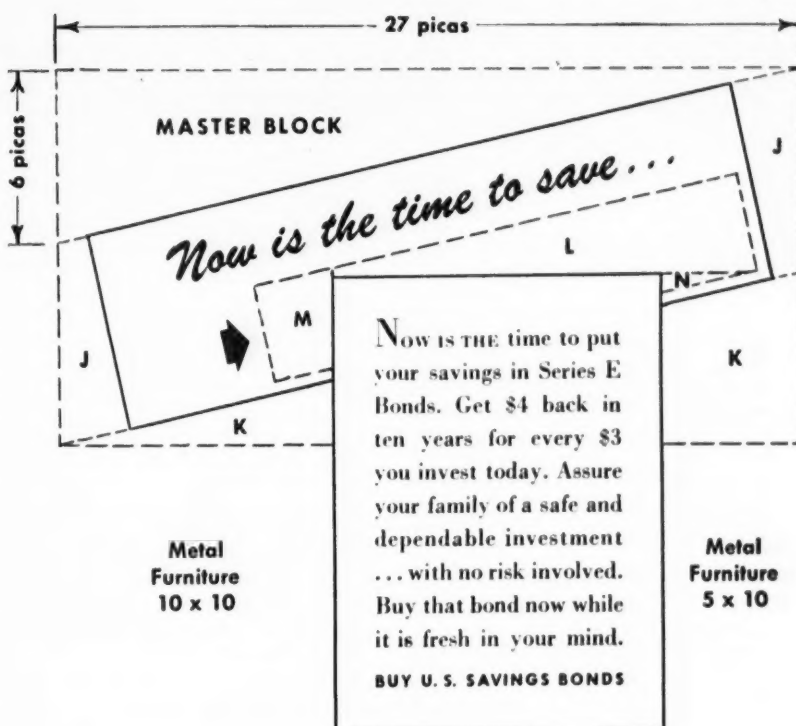

FIG. 12
The best way to show the proper procedure is by carefully following the explanation of Figure 12.
Several points, however, should be kept in mind when dealing with these complex angles. First, a master block involving the widest dimension is determined and cut (such as block A, Figure 5—see *THE INLAND PRINTER*, February, 1953, page 62). Second, once an angle has been cut and is correct, all other angles in the construction are derived from it. Third, there is no particular need to cut the small blocks to the depth indicated in Figure 12. The important point to remember is to cut to the proper width. Should the blocks be cut to smaller depth than indicated, they can be built up by using leads or slugs.
3. After one-point rule borders have been mitered, cut master block as per diagram in Figure 12. Size of the master block is 27 picas wide by 6 picas deep. Always remember that the wood is cut with the grain running the long way—27 picas. If this is not done, the result will be angle blocks which are weak and apt to break.
4. Cut at least six or seven blocks the same size as the master block. Portions of all of these blocks will be used in the construction of Figure 12.
If all the blocks are cut according to the explanation of Figure 12, it will result in excellent composition involving angles. However, it may be argued, and rightly so, that block L should have been cut to a point for a length of  $16\frac{1}{2}$  picas, necessitating a smaller block for M. This will result in a slightly different procedure for cutting block M. To accomplish this, simply place the  $3\frac{1}{2}$ -pica piece on its hypotenuse and trim the wide end, thus making it conform with the angle already created by extension of block L.
If the learner has attempted to reconstruct the example of Figure 12, it would be a good idea to try blocks L and M both ways. There are many constructions in which it will be found necessary to cut an end of a block to conform to another block merely by